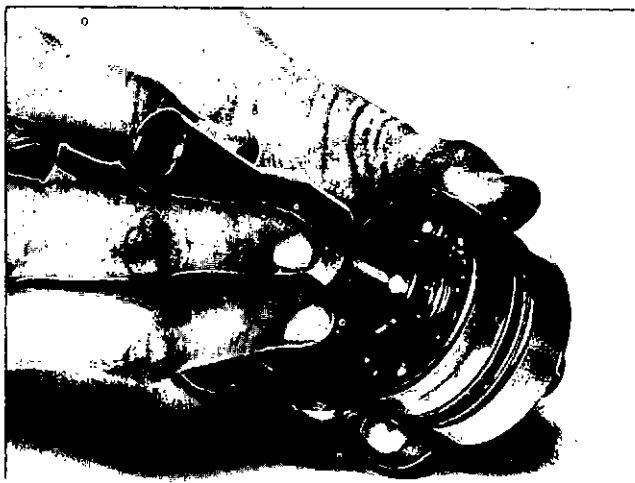

Fig. 8-48 (N10889). Install The Pilot For The Oil Seal Onto The Shaft.
13. Apply a thin coat of Loctite 601 to the outside diameter of the bearings. Install the Part No. 3375180 Oil Seal Pilot to the impeller end of the shaft, Fig. 8-48. Install the bearing and shaft assembly into the bore of the housing. Use the ST-658 to push the bearing and shaft into the housing. Remove the 3375180 pilot.